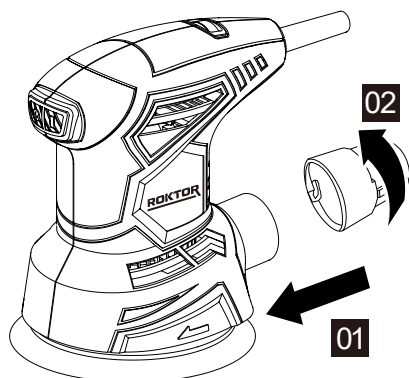

Figure 2-1
2. USING THE DUST BOX (SEE FIG. 2-1 & 2-2)